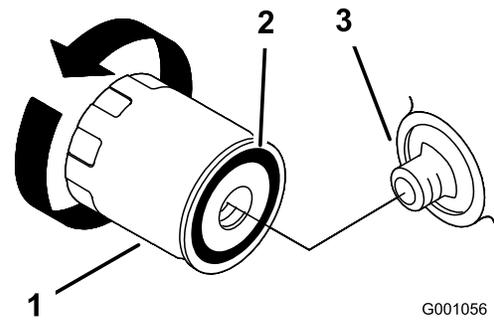

Figure 26
3. Apply a thin coat of new oil to the rubber gasket on the replacement filter (Figure 26).
4. Install the replacement oil filter to the filter adapter, turn the oil filter clockwise until the rubber gasket contacts the filter adapter, then tighten the filter an additional 2/3 to 1 turn (Figure 26).
2. Remove the old filter and wipe the filter-gasket surface (Figure 26).